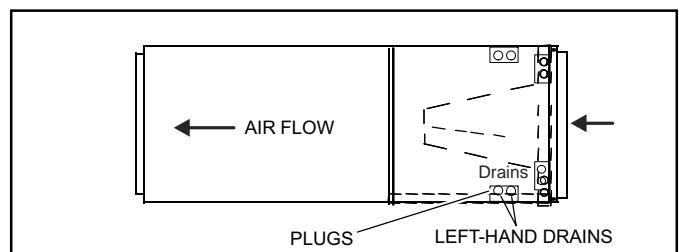

Figure 2. Left-Hand Discharge Configuration
4. The horizontal configuration is shown in figure 2.